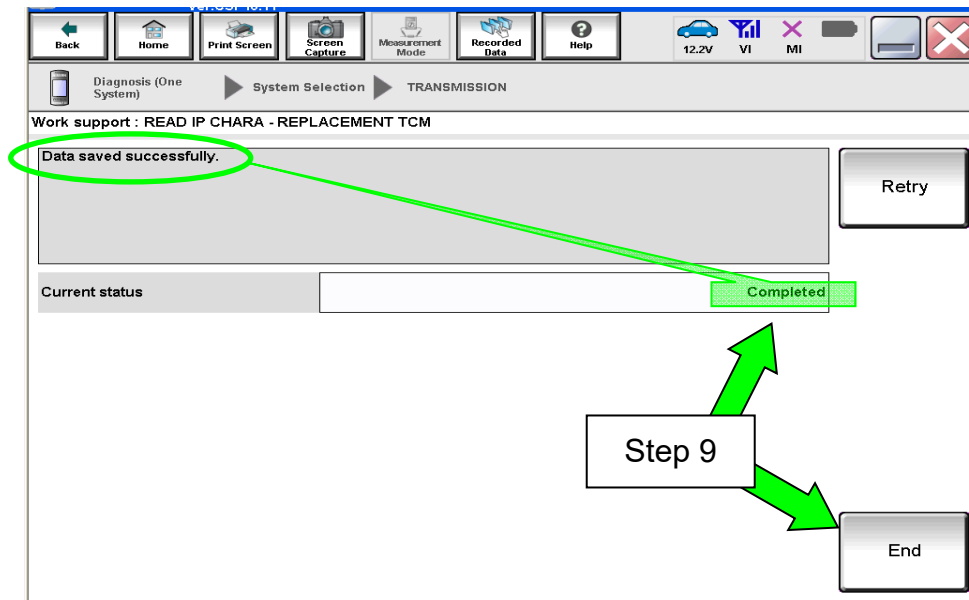

Figure A4
8. When the calibration data has been saved to the CONSULT PC, the message “**Data saved successfully**” will be displayed and **Current status** will indicate **Completed** (see Figure A4).